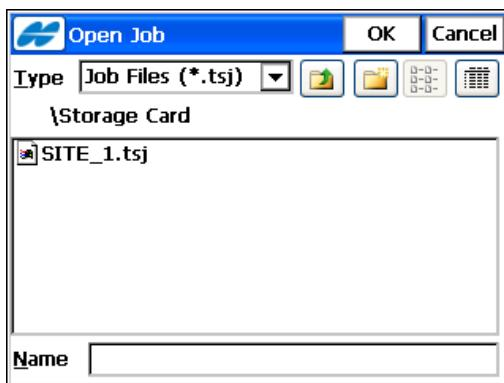

Figure 1-3. Open a New Job
- **Browse** – press to display browse directories to open a job from a remote directory. Highlight the file and press **OK** (Figure 1-3).
Within a menu option, the title bar displays the Help Icon, the name of the open screen, and any system buttons (e.g., **OK**, **Cancel**, **Finish**) required for various operations (Figure 1-3 on page 1-3).